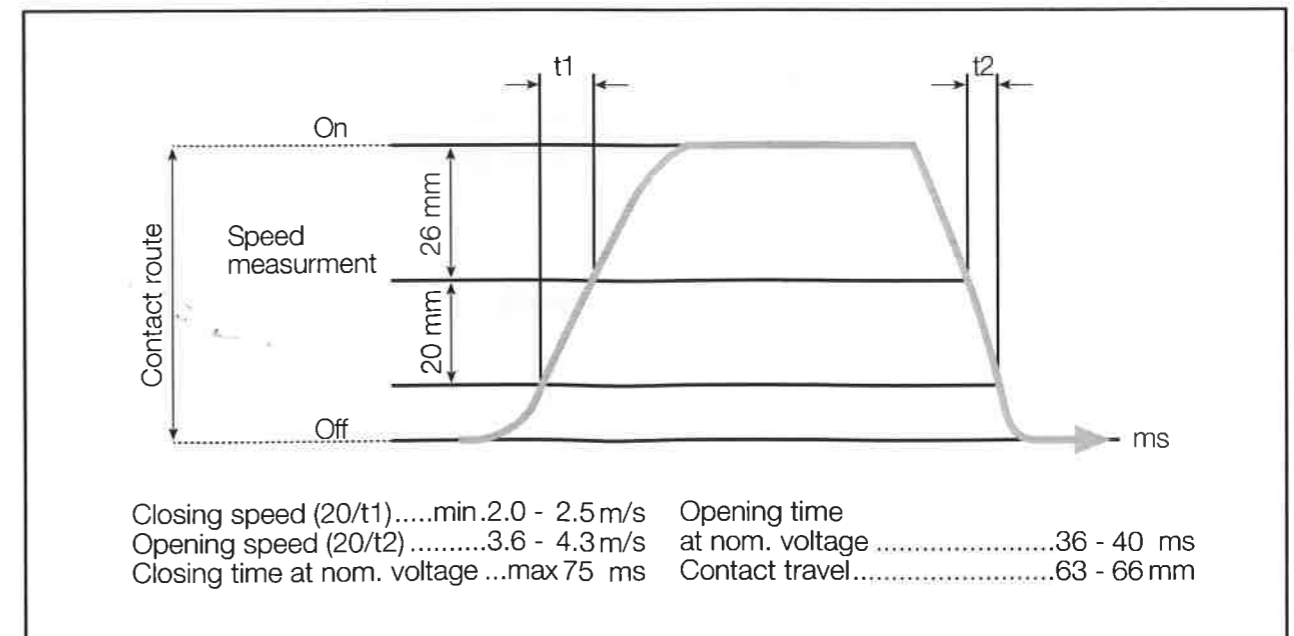

Fig. 10. Motion diagramme.
3. Carry out one breaker closing and one breaker tripping. **CAUTION!** The link comes out of the rack approx. 20 mm upon tripping the breaker. If a graph is obtained, it should agree with Fig. 10 (page 15).